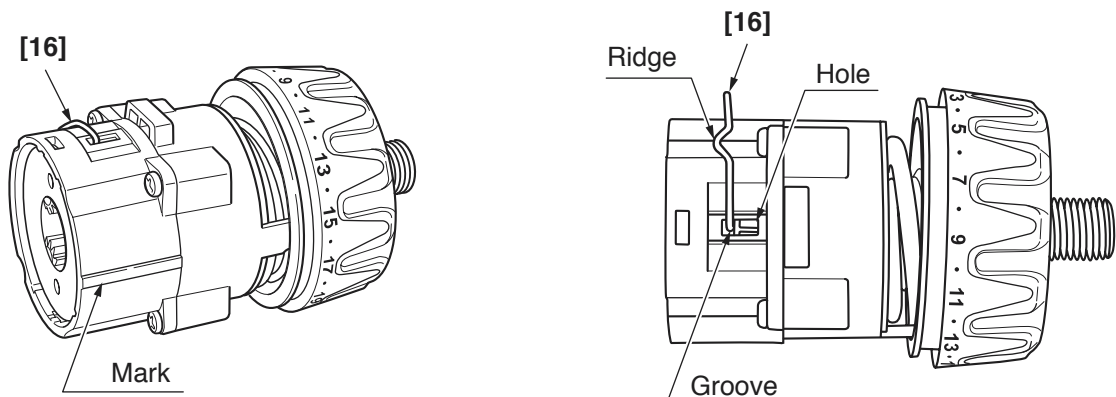

Fig. 15
- (ii) Install the Front Case [9] and the Rear Case [14] together with the mark on the Front Case [9] aligned with the mark on the Rear Case [14]. (See Fig. 15.)
With the ridge at the Shift Arm [16] facing the Motor [25] side, first install them on the unmarked side of the assembly reassembled in step (b). Then insert the projections on the Shift Arm [16] into the holes in the Rear Case [14] and make sure that the projections are fitted into the grooves in the Slide Ring Gear [17] mounted within the Rear Case [14]. (See Fig. 15.)